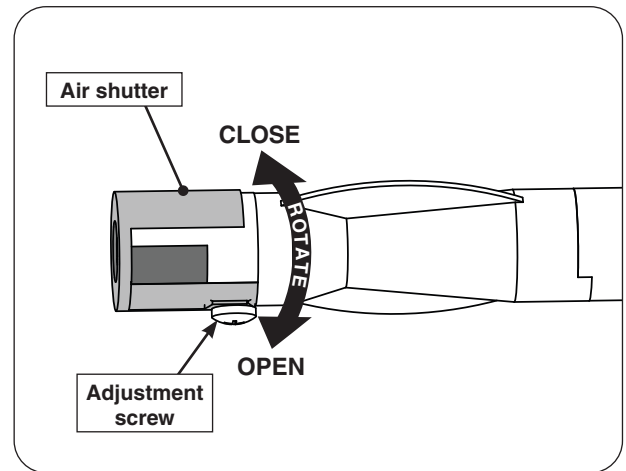

Fig. 51-1 Double side burner air shutter adjustment detail
2. Loosen the adjustment screw with a screwdriver, then carefully rotate the shutter to open or close it. See Fig. 51-1 for details.